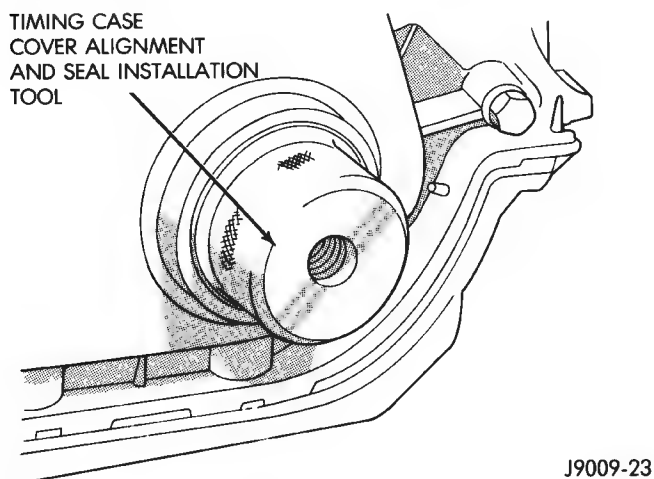

Fig. 12 Timing Case Cover Alignment and Seal Installation Tool 6139
(12) Place Timing Case Cover Alignment and Seal Installation Tool 6139 in the crankshaft opening in the cover (Fig. 12).